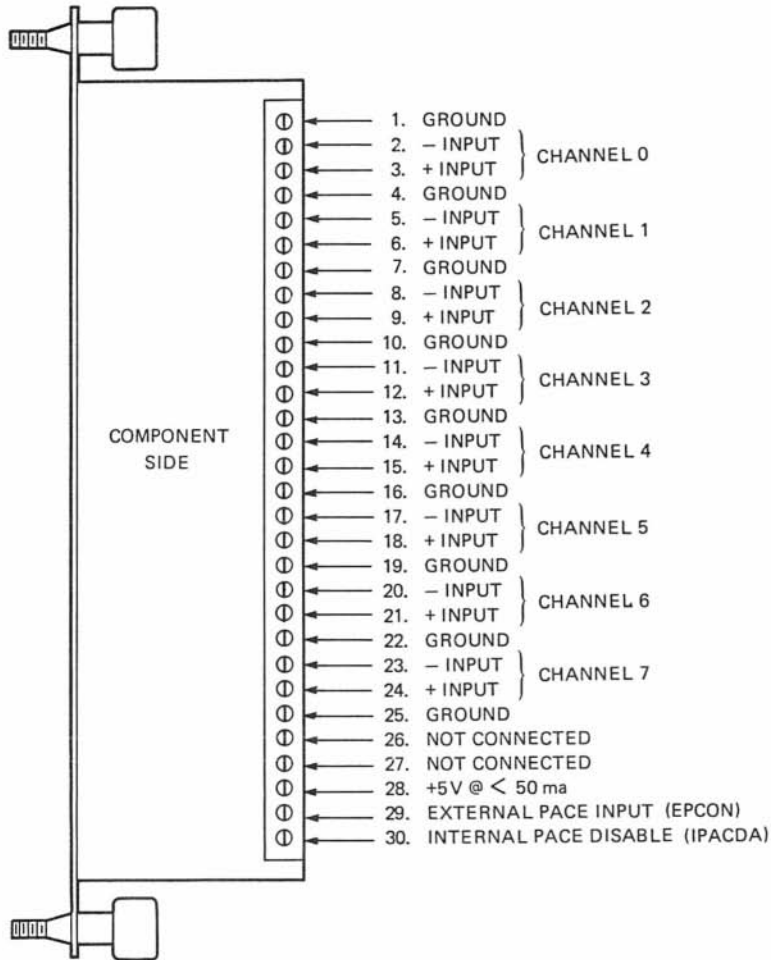

Figure 5-15. Wire termination inputs.
- c. Connect the analog inputs to the external screw terminations (see Figure 5-15).